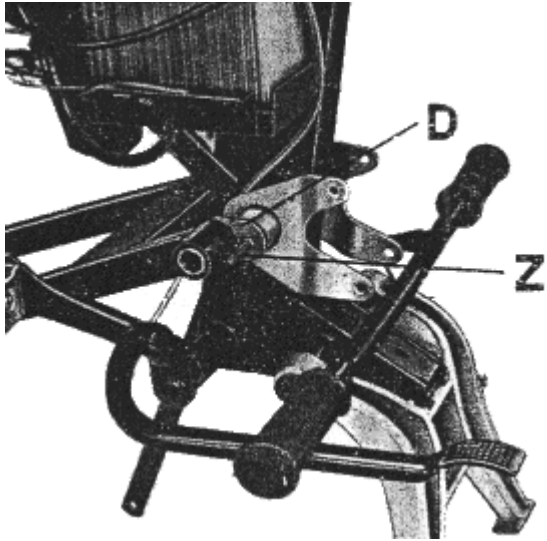

Fig. 78. Engine shoes axially compressed by pressure ring (D) and draw spindle (Z) with M 6 thread. Rear wheel swing arm fitted
- Compress the engine shoes axially by means of the pressure rings to the length of the frame bearing tube (see Fig. 78).